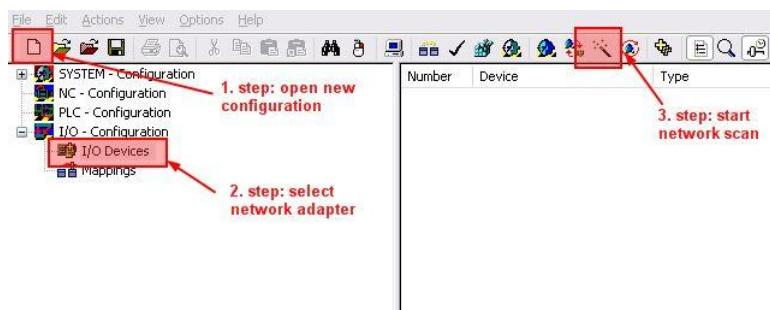

Figure 38: Scan for new EtherCAT devices with TwinCAT 2
- TwinCAT 2:** Open a new System Manager configuration and scan the network for new devices (Figure 38).